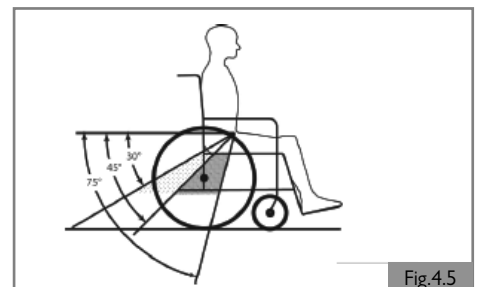

Fig.4.5
21. A steeper (greater) angle within the preferred zone is desirable, closer to, but not exceeding 75 degrees (Fig. 4.5).